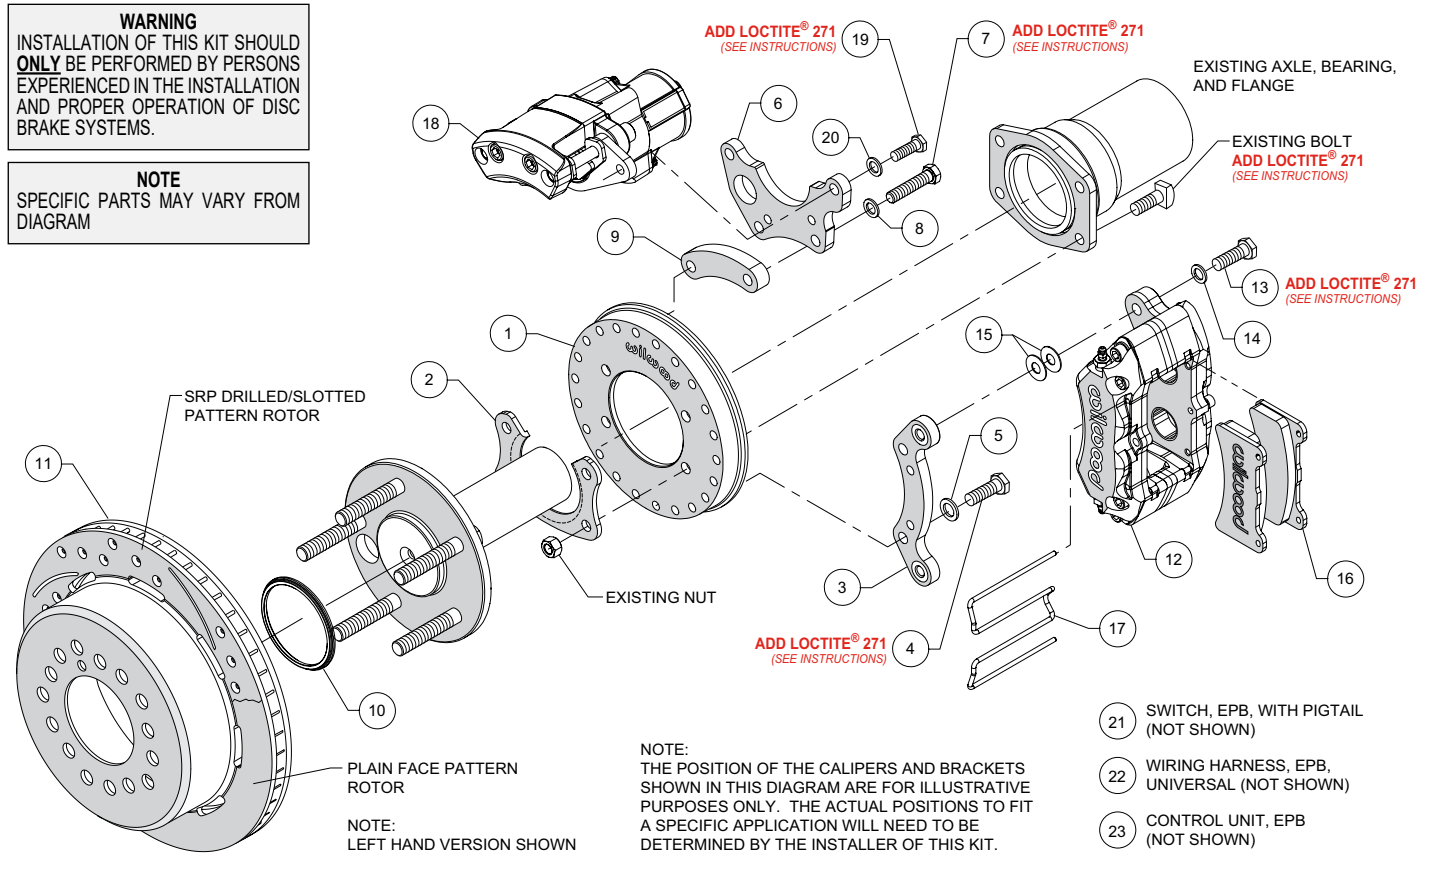
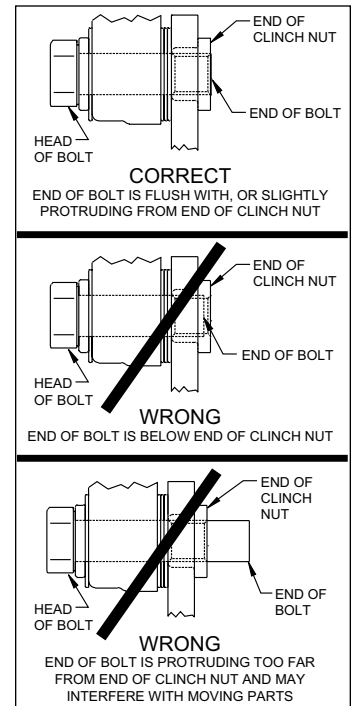

Figure 1. Typical Installation Configuration
Figure 5. Clinch Nut Engagement Diagram
NOTE: Numbers in parenthesis refer to the parts list and Figure 1 on the preceding pages.
CAUTION: All mounting bolts must fully engage clinch nuts. Be sure to check that all bolts are either flush or protruding through flanged side of clinch nut after shimming, Figure 5.
- Orient the backing plate (1) as shown in Figure 1 and Photo 1, and slide it onto the axle housing flange. Ensure the backing plate fits flush against the axle housing flange. Reinstall the axle into the axle housing.
- Install the bearing retainer (2) with the opening pointing upward and the lip facing inward (toward the bearing), as shown in Figures 1 and 4, and Photo 2. Secure retainer and backing plate to the axle housing flange using the Original Equipment Manufacturer (OEM) bolts and nuts, Figure 1 and Photo 3. Apply red *Loctite*® 271 to the OEM bolt threads and torque to OEM specifications.
- Start by determining the best location for the service caliper (12). This caliper is usually mounted in the 3:00 or 9:00 o'clock position, but may be rotated up or down approximately 45 degrees and still allow for proper bleeding, Photo 4. Orient the service caliper bracket (3) as shown in Figure 1 and Photo 5, and install to the backing plate (1) in the desired location using bolts (4) and washers (5). Temporarily tighten bolts. Next, mount the service caliper to the bracket using bolts (13) and washers (14). Temporarily tighten bolts. Check that the caliper (including inlet fitting and hose) has sufficient clearance to all surrounding components through the full suspension travel. Relocate the caliper/bracket on the backing plate as needed to ensure proper clearance is achieved.
- Determine the best location for the EPB caliper (18). **NOTE:** *The EPB caliper motor extends farther inboard than the service caliper and therefore needs additional consideration when determining a mounting location with sufficient clearance.* In the example application shown in Photo 6, the EPB caliper has sufficient inboard clearance to the leaf spring. However, if the EPB caliper were mounted closer to the 12:00 o'clock position, the inner body of the vehicle would hit the caliper during full compression of the suspension.
•Orient the EPB caliper bracket (6) as shown in Figure 1 and Photo 7, and install to the backing plate (1) in the desired location using bolts (7), washers (8), and spacer (9). Temporarily tighten bolts. **NOTE:** The EPB bracket is reversible. In one direction the bracket will position the EPB caliper closer to the service caliper, and vice versa if reversing the bracket. Next, mount the EPB caliper (18) to the bracket using bolts (19) and washers (20). Temporarily tighten bolts. **NOTE:** EPB calipers are Left and Right handed, however they can be used on either side of the vehicle to best suit your specific application. Check that the EPB caliper (including wiring harness connector) has sufficient clearance to all surrounding components through the full suspension travel. Relocate the EPB caliper/bracket on the backing plate as needed to ensure proper clearance is achieved.
•Once the caliper positions have been determined, remove both the service (12) and EPB (18) calipers, leaving both brackets in place on the backing plate. For both brackets, remove the bolts one at a time, apply red *Loctite*® 271 to the threads, and torque to 35 ft-lb.
•Slide the rotor registration adapter (10) onto the register on the axle flange with the smaller O.D. facing toward the rotor/hat (11), Photo 8. Align the correct hole pattern in the rotor/hat with the stud pattern on the axle flange and slide into place, Figure 1. **NOTE:** The rotor/hat must fit flush against the axle flange or excessive rotor run out may result. Install three lug nuts (finger tight) to keep the rotor/hat assembly in place while continuing with the installation. **NOTE:** Some OEM and after market axles come with stud sizes larger than 0.50" diameter. Verify stud size and have a qualified machine shop drill the bolt circle of the hat/rotor to the correct stud size, if necessary.
•**NOTE:** Please reference the caution statement at the beginning of the assembly instructions. Remount the service caliper (12) onto the caliper mounting bracket (3) using bolts (13) and washers (14), as shown in Figure 1. Initially place two .035" thick shims (15) on each bolt between the caliper and the bracket, Photo 9. Temporarily tighten the mounting bolts and view the rotor (11) through the top opening of the caliper. The rotor should be centered in the caliper, Photo 10. If not, adjust by adding or subtracting shims (15) between the bracket (3) and the caliper (12). Always use the same amount of shims on each of the two mounting bolts. **NOTE:** The end of each bolt must be flush with or slightly protruding from the head of the clinch nut, as shown in Figure 5. If necessary place spare shims (15) between washer (14) and caliper mounting ear to achieve the proper clinch nut engagement. Once the caliper alignment and clinch nut engagement are correct, remove the bolts one at a time, apply red *Loctite*® 271 to bolt threads, and torque to 40 ft-lb.
- Mount the EPB caliper (18) onto the caliper mounting bracket (6) using bolts (19) and washers (20), Figure 1. Apply red *Loctite*® 271 to bolt threads, and torque to 30 ft-lb.
- NOTE:** *The service caliper (12) in this brake kit utilizes a 1/8-27 NPT pipe thread inlet. OEM rubber brake hoses generally cannot be adapted to Wilwood calipers. The preferred method is to use steel adapter fittings at the caliper, either straight, 45 or 90 degree (use PTFE tape on pipe threads of adapter fitting for proper sealing to caliper) and enough steel braided line to allow for full suspension travel. Carefully route hoses to prevent contact with moving suspension, brake or wheel components. NOTE: Wilwood hose kits are designed for use in many different vehicle applications and it is the installer's responsibility to properly route and ensure adequate clearance and retention for brake hose components. Wilwood offers universal brake flex line hose kits, domestic (3/8-24 IF) chassis fittings, order: